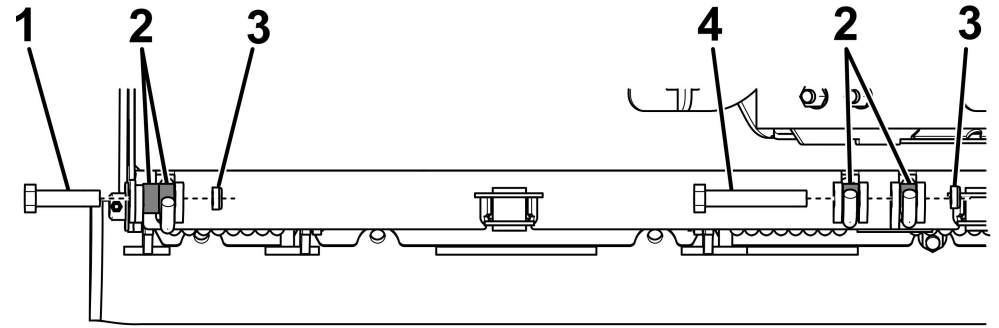

Figure 54
- Place the end of a strong pipe on the upper spring leg and move it enough to fully insert the tension pins, sliding the bushings between the tension pin brackets (Figure 54). Gently return the spring to a resting position.